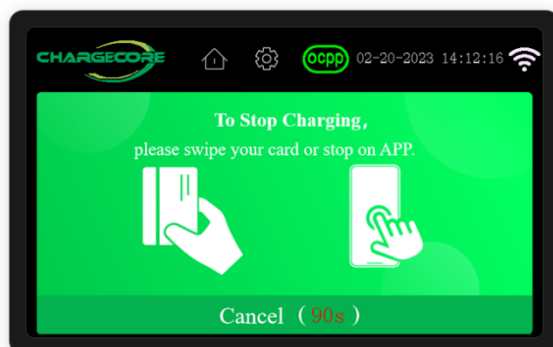

Figure 47. RFID card settlement interface
- When choosing an RFID card, you need to swipe the card again to pay (as shown in Figure 47)